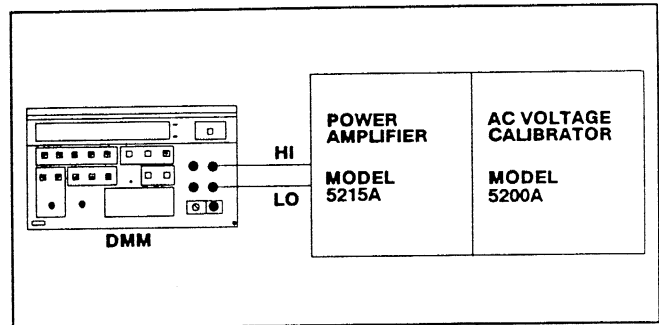

Fig. 2-2. Connections for TRMS AC Volts Check.
- b. Connect the DMM to the AC voltage calibrator and the power amplifier as shown in Fig. 2-2.